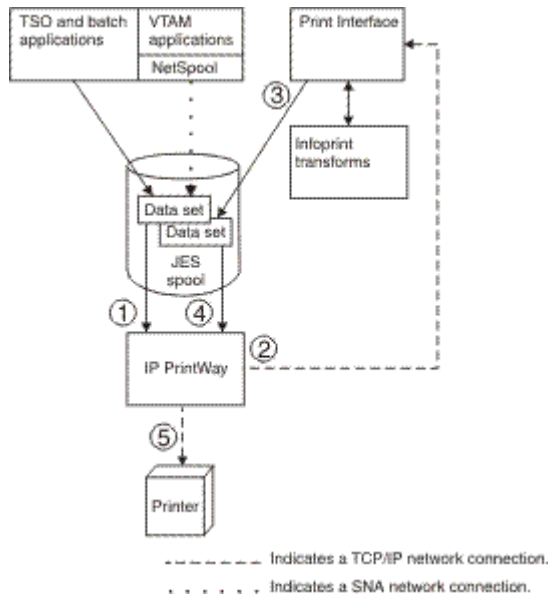

Figure 5: Processing when resubmit for filtering option is selected
Figure 5 on page 198 shows the processing that occurs when you select the **Resubmit for filtering** field in a printer definition.
**Note:** The processing that is shown in Figure 5 on page 198 results in two data sets allocated on the JES spool. Therefore, do not select this option unless necessary because system performance can be adversely affected.